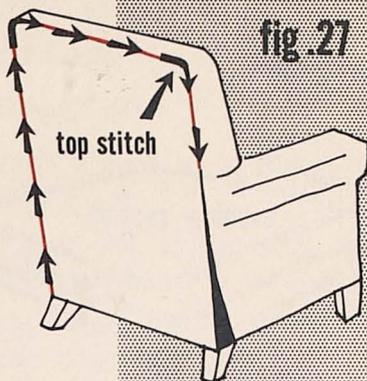

fig.27
3. Top stitch corded back piece and attach zipper. (Figure 27)